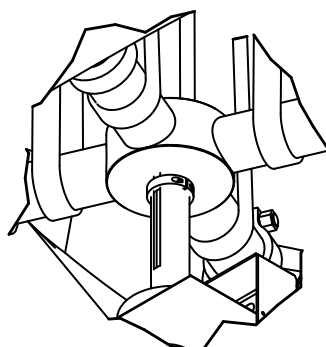

Figure 28. Key Lineup
6. Line up the key with the slot. Slowly lower the fan onto the shaft until the fan hub is flush against the factory installed tangent locking collar (**Figure 28**).